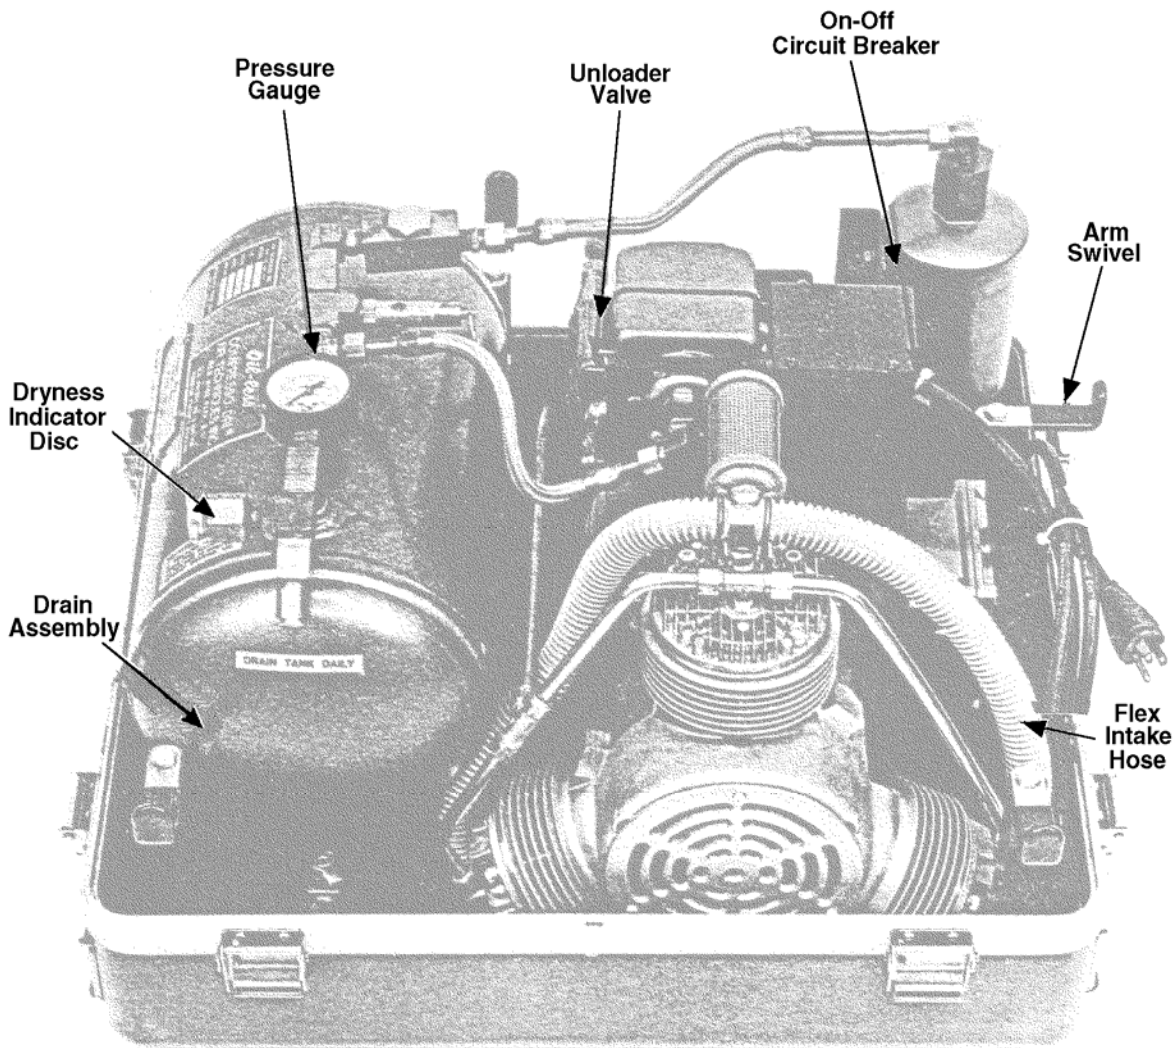

Figure 1-2. Operator controls and indicators.
c. **Operator Controls and Indicators.** Refer to figure 1-2.
- (1) Drain valve. Use to remove water and air from the storage tank.
- (2) Dryness indicator. Indicates presence of moisture in the air (blue is dry, pink is wet).
- (3) Pressure gauge. Indicates the pressure of air in the storage tank.
- (4) Red manual unloader tab. Use to unload compressor head before starting.
- (5) ON-OFF circuit breaker. Power switch and protective device for compressor motor.
- (6) Swivel arm. Use to support the transit case cover above the compressor during normal operation.